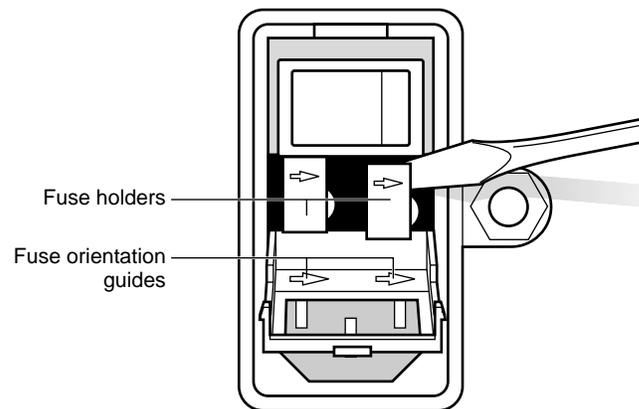

Figure 6-2: Removing the Fuse Holder
- Use the screwdriver tip to remove the fuse holder by pulling straight out from the N-3200 as illustrated in Figure 6-2.